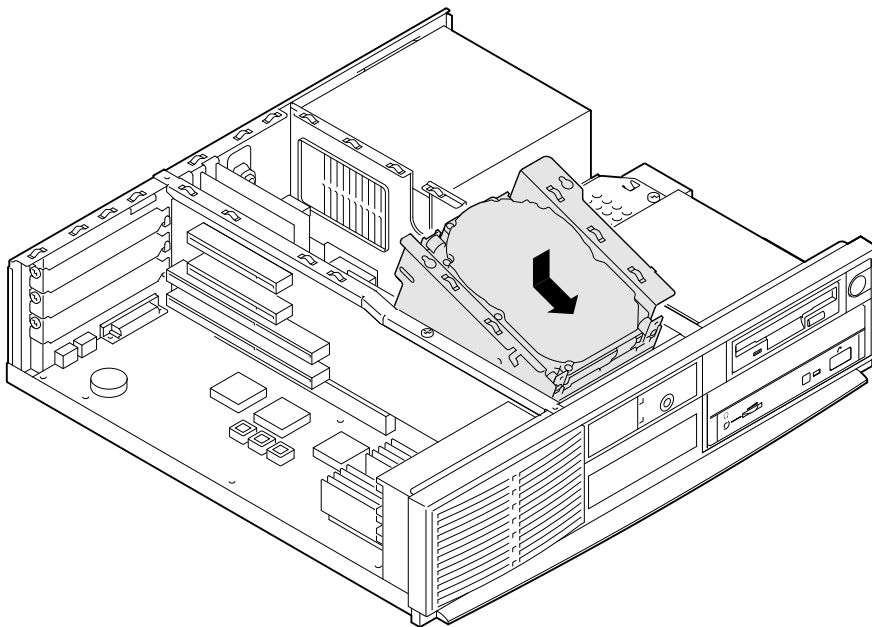

Figure 3-14. Mounting Drives and Installing Drive Bracket
6. Place the drive bracket into the system unit, as Figure 3-14 shows.